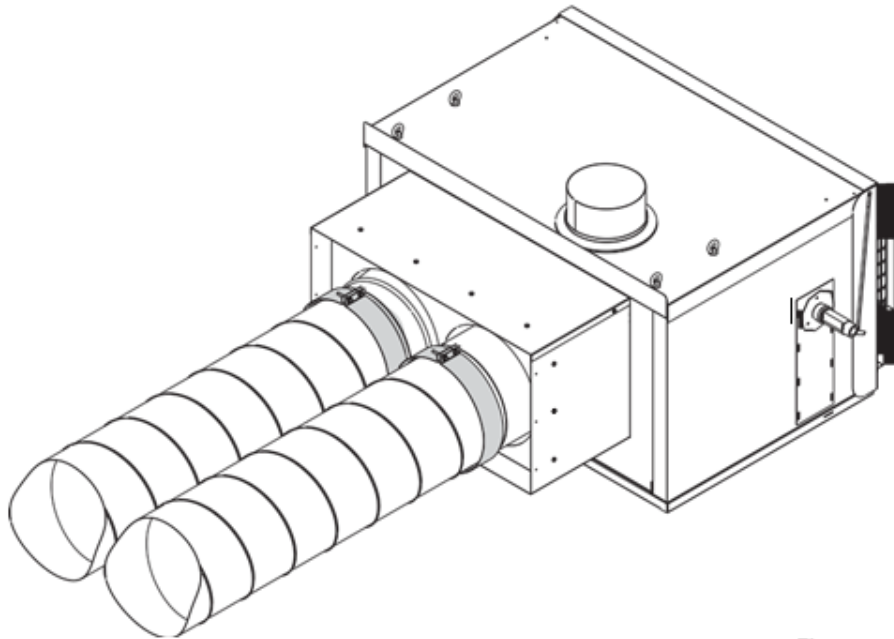

Fig.4.22
4) Once the clamp is firmly fixed, the unit should appear as shown in fig. 4.22, with the fixing screws pointing upwards,